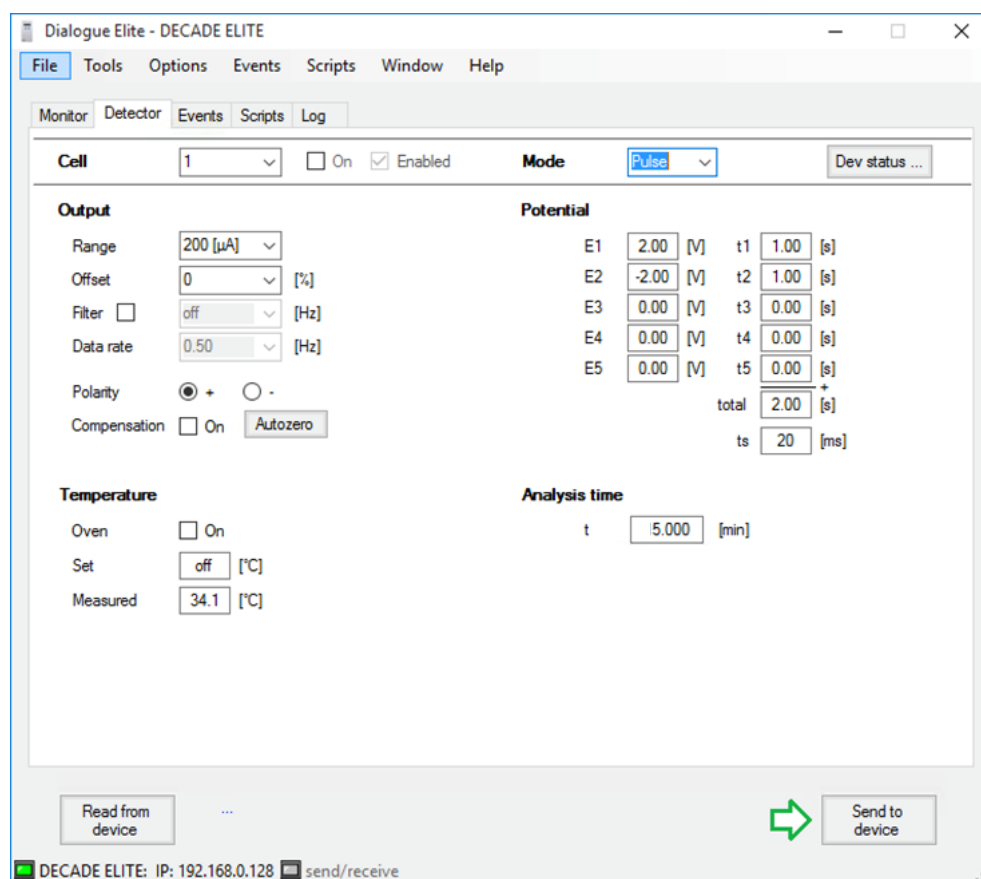

Figure 23. Dialogue Elite Detector tab with pulse settings for the electrochemical activation of MD and GC WE electrodes.
2. Open Dialogue Elite, go to the detector tab and set the detection mode to pulse with the settings for the electrochemical activation, see Figure 23. The settings for the activation pulse are listed in Table 4.